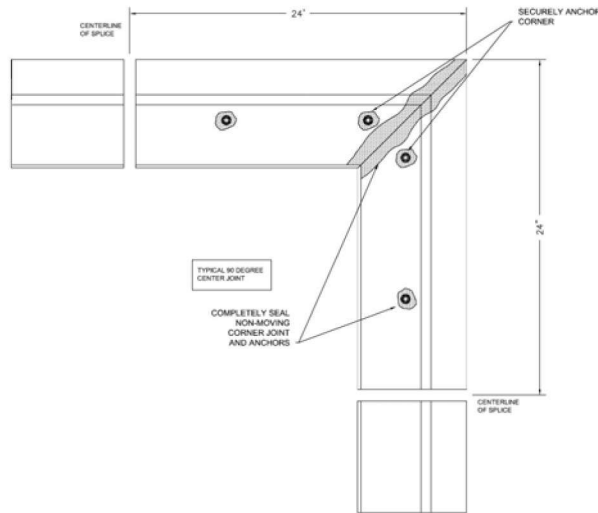

**Fig. 13**
6. Snap in Glass Stop SF 1853 and then press exterior glazing gasket into position. Be sure to seal the ends of the glazing gaskets at the corners. See Figure 13.